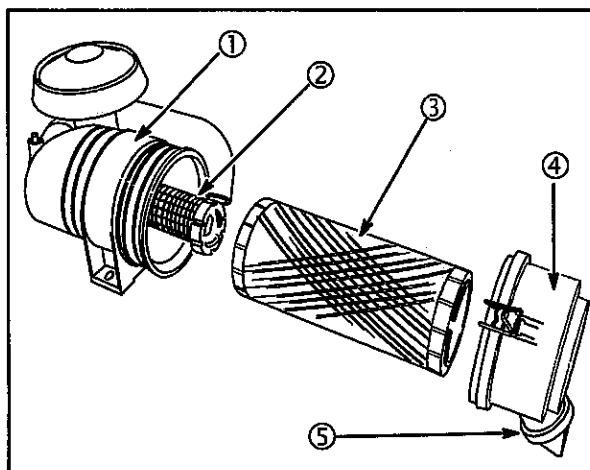

Fig. 4
1. Remove debris from the air cleaner by squeezing the ends of the debris valve (5), Fig. 4.